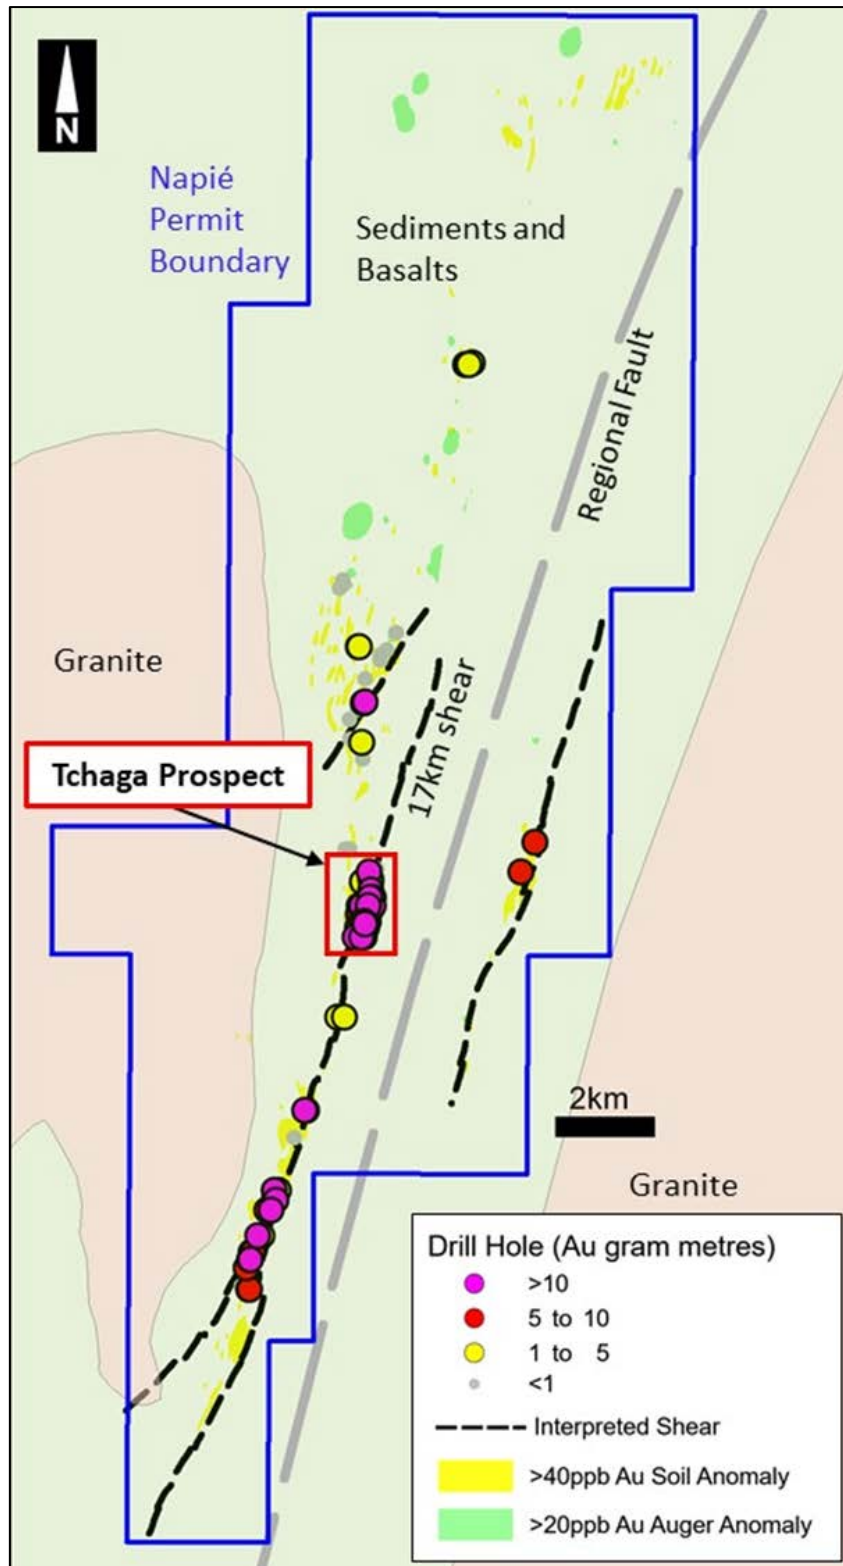

Figure 2: Tchaga Prospect – Napié Project
**Mako Gold Limited (“Mako” or “the Company”)** is pleased to advise that it has received assay results from its latest drilling program on the Tchaga Prospect at the Company’s 224 km2 Napié Project in Côte d’Ivoire (Figure 2). Mako is earning up to a 75% interest in the Napié Project under a farm-in and joint venture agreement with Occidental Gold SARL, a subsidiary of West African gold miner Perseus Mining Limited (ASX/TSX:PRU). Mako currently holds a 51% interest in the permit and is operator of the project1. Mako intends to fast-track the Napié Project and can earn up to 75% by taking the project to feasibility.
The drilling program consisted of 2,090m of reverse circulation (RC) drilling in 19 holes on the Tchaga Prospect. The Tchaga Prospect is associated with a +40ppb gold soil anomaly coincident with a +17km long shear zone, thought to be a major control for gold mineralisation as shown on Figure 2.
Significant drill intersections encountered to date elsewhere throughout the permit show potential for more positive gold intercepts in future drilling. Mineralised zones are spatially related to gold soil anomalies coincident with multiple structures sub-parallel to the deep-seated regional fault that extends through Côte d'Ivoire. The soil/auger anomalies are shown in yellow and green, and the sub-parallel structures as dashed black lines in Figure 2.